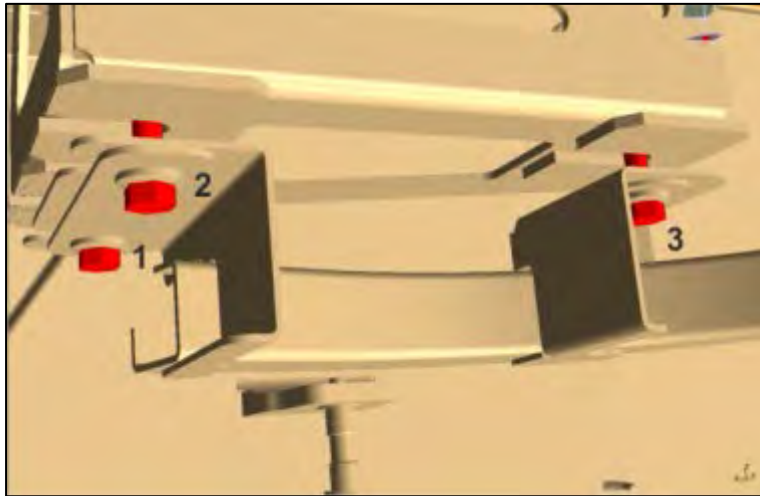

Figure 58
- 81. Tighten all three screws to **16 lb-ft.** (Figure 58)